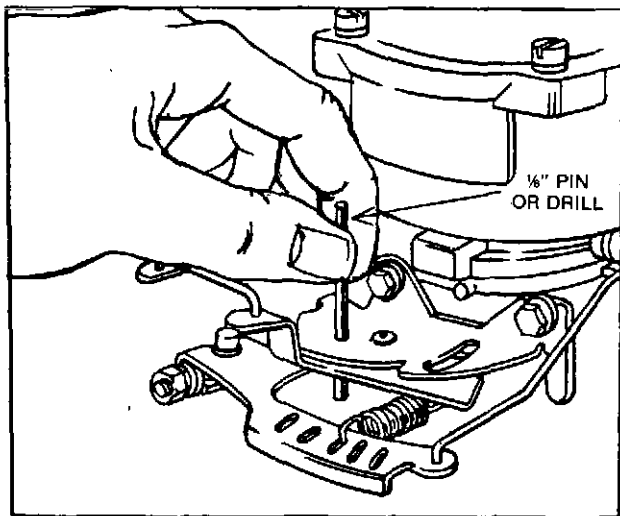

Fig. 17. Alignment of Governor Control Plate
2. Hold throttle shaft in closed position and adjust idle speed screw to 900 R.P.M. Release the throttle. Move the remote control until a $\frac{1}{8}$ diameter pin can be inserted through two holes in the governor control plate, as shown in Fig. 17. This is the governed idle adjustment position.